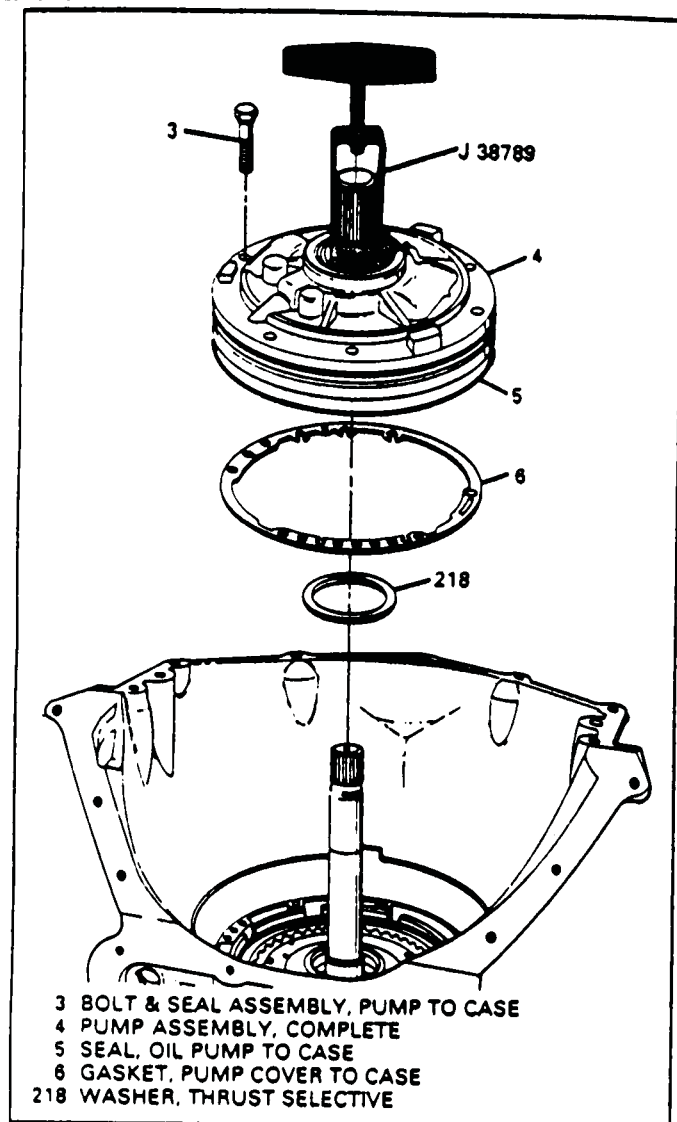

Figure 47
2. Remove seven 13mm pump retaining bolts and "O" rings (See Figure 47).
6. Remove the oil pump assembly from the transmission (See Figure 47).